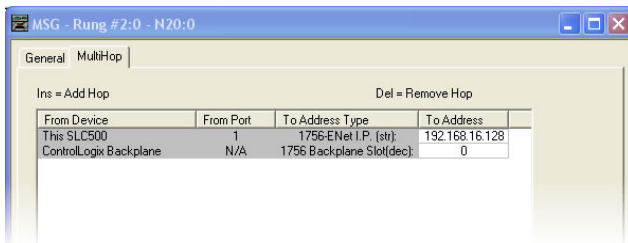

Figure 120: MSG Configuration, "MultiHop" Tab
- e) Under the “MultiHop” tab settings, set the “To Address” in the first row to the inverter’s IP address, and the “To Address” in the second row to 0. Refer to Figure 120.